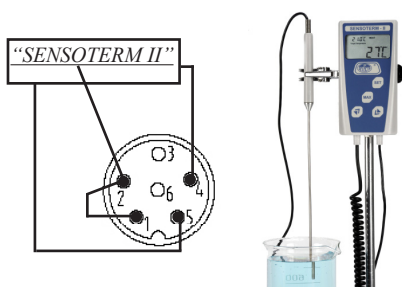

Figure 2
- The connection is as shown on figure 2.